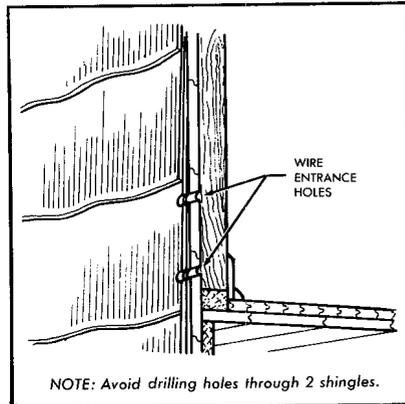

FIGURE 3. Entrance Through Composition Shingles
- Locate hole as shown in Figure 3 to avoid drilling through two shingles.